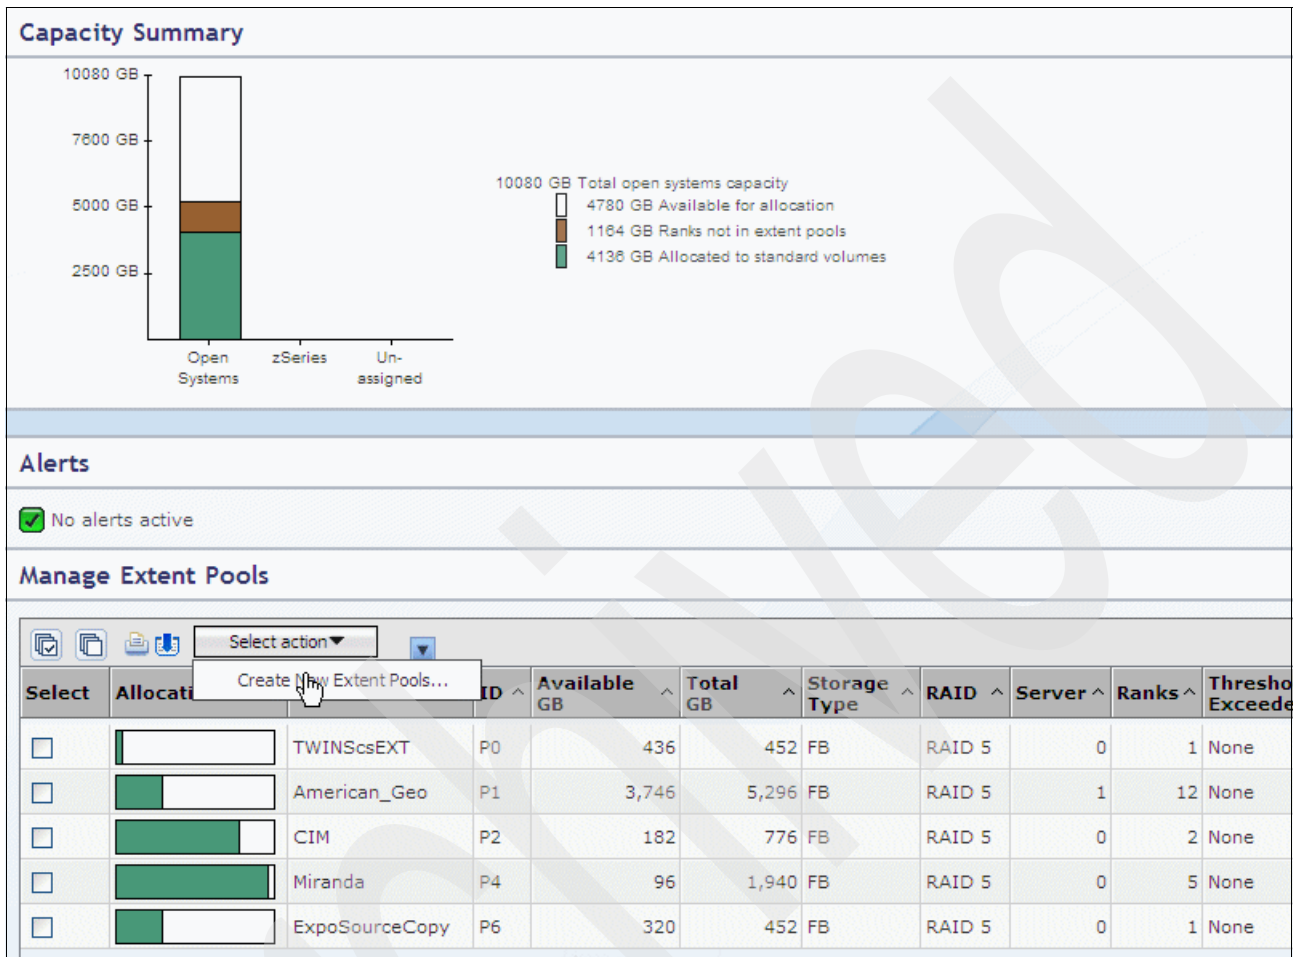

Figure 10-4 DS8000 Storage Manager Extent pools panel
4. Create a new extent pool for rank R23. Select **Real-time manager** → **Configure storage** → **Extent pools**, and select **Create New Extent Pools** from the Select action drop-down menu (see Figure 10-4).